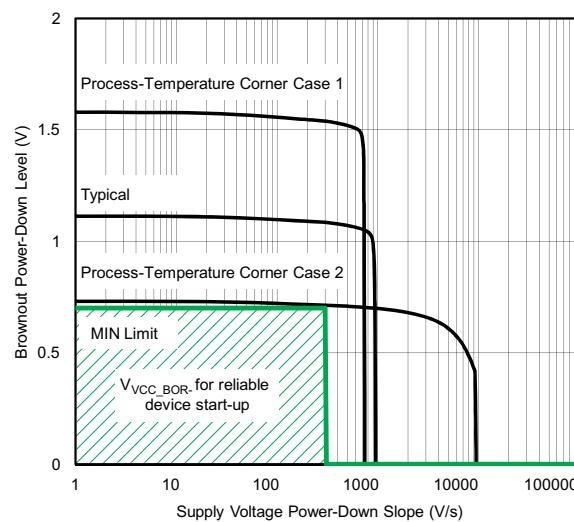

Figure 5-6. Brownout Power-Down Level vs Supply Voltage Down Slope
- (1) In case of a supply voltage brownout, the device supply voltages must ramp down to the specified brownout power-down level (V_{VCC_BOR-}) before the voltage is ramped up again to ensure a reliable device start-up and performance according to the data sheet including the correct operation of the on-chip SVS module.
- (2) Fast supply voltage changes can trigger a BOR reset even within the recommended supply voltage range. To avoid unwanted BOR resets, the supply voltage must change by less than 0.05 V per microsecond ($\pm 0.05 \text{ V}/\mu\text{s}$). Following the data sheet recommendation for capacitor C_{DVCC} should limit the slopes accordingly.
- (3) The brownout levels are measured with a slowly changing supply. With faster slopes, the MIN level required to reset the device properly can decrease to 0 V. Use the graph in Figure 5-6 to estimate the V_{VCC_BOR-} level based on the down slope of the supply voltage. After removing V_{CC} , the down slope can be estimated based on the current consumption and the capacitance on DVCC: $dV/dt = I/C$ where dV/dt = slope, I = current, C = capacitance.
- (4) The brownout levels are measured with a slowly changing supply.